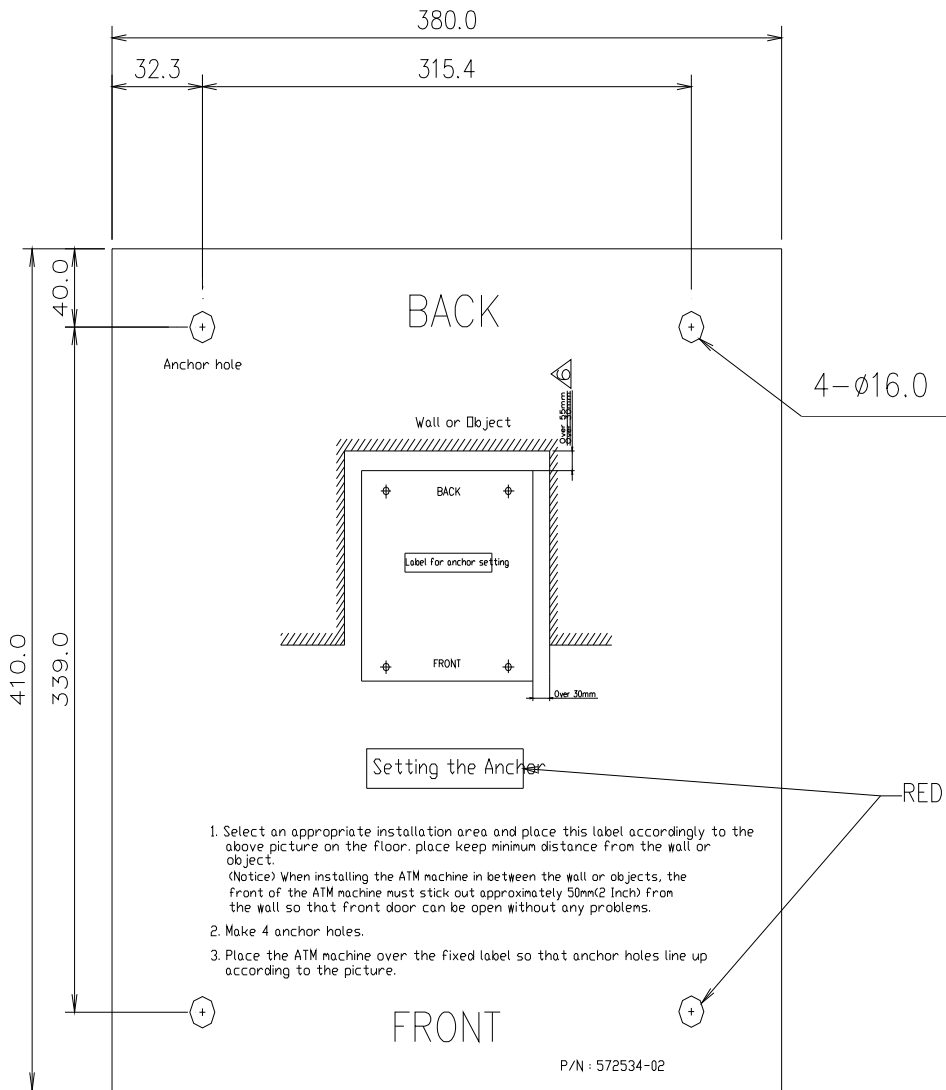

Fig. 4.5 Anchor diagram of NH-1800CE ATM
- 1) Place the “Anchor bolts locate sheet” at the place where the machine is to be installed. (refer to Fig. 4.5)